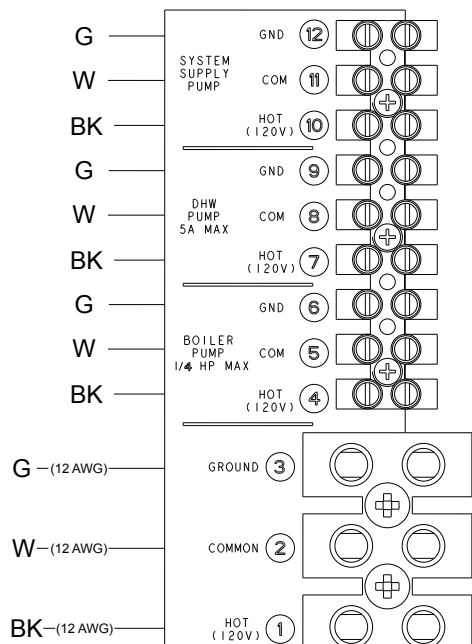

Figure 21. XPak FT Cascade Master Pumps
1. On the boiler designated as the Master, connect the system pump wiring to the terminal block at the rear of the unit. Connect to terminals 10, 11, and 12. See Figure 21 on page 26. The output is rated for pilot duty only (2A maximum).
2. Connect the boiler pump wires to the terminal block at the rear of their unit. Connect to terminals 4, 5, and 6. See Figure 21 on page 26.
2. For each follower boiler, connect the boiler pump wires to the terminal block at the rear of each unit. Connect to terminals 4, 5, and 6. See Figure 21 on page 26 .